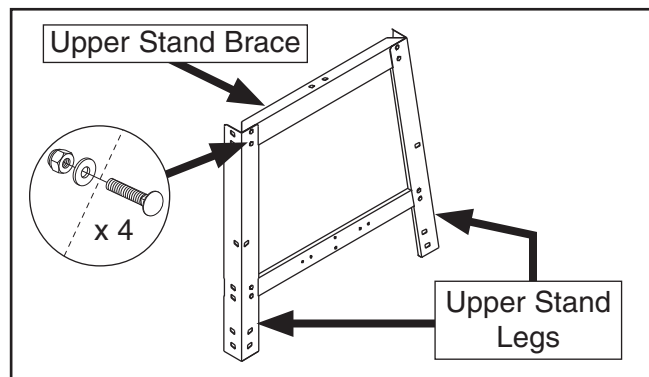

Figure 9. One side of upper stand assembled.
2. Connect same upper stand legs and (1) upper stand brace with (4) $\frac{5}{16}$ "-18 x $\frac{3}{4}$ " carriage bolts, $\frac{5}{16}$ " flat washers, and $\frac{5}{16}$ "-18 hex nuts (see **Figure 9**).